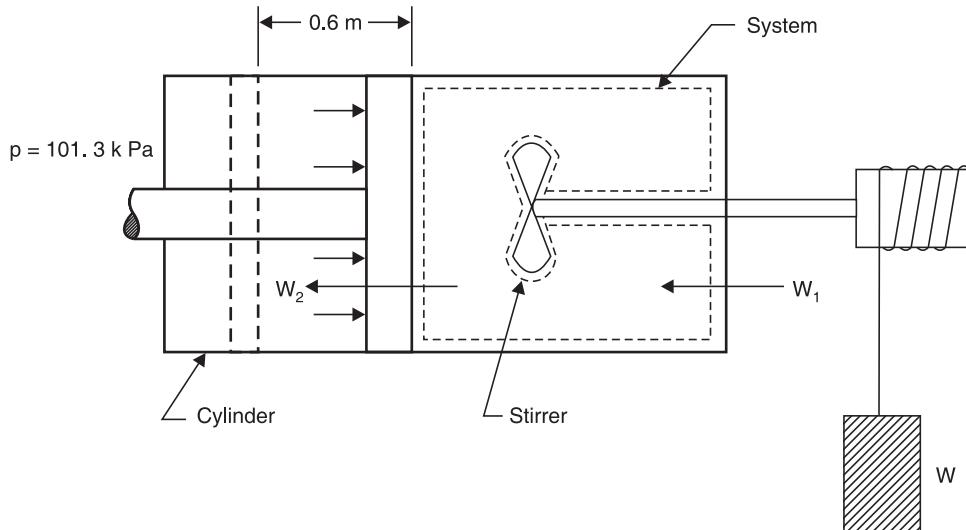

Fig. 1.35
**Example 1.17.** A piston and cylinder machine containing a fluid system has a stirring device as shown in Fig. 1.35. The piston is frictionless, and it is held down against the fluid due to atmospheric pressure of 101.3 kPa. The stirring device is turned 9500 revolutions with an average torque against the fluid of 1.25 mN. Meanwhile the piston of 0.65 m diameter moves out 0.6 m. Find the net work transfer for the system.
**Solution.** Refer Fig. 1.35.